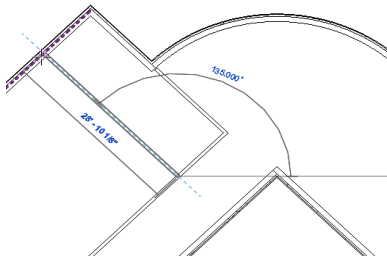

Figure 3-72 Sketching the third interior wall
7. Move the cursor upward towards the left such that it subtend an angle of 135 degrees with the horizontal until it reaches the exterior wall and the **Nearest** object snap is displayed, as shown in Figure 3-72. Click to specify the endpoint of the wall.